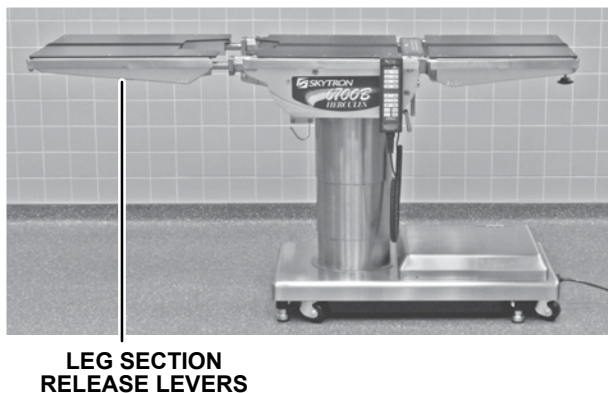

Figure 2. Leg Section Removal
4. Remove the leg section by pressing the two (2) release levers and pulling it out off the leg pins (Figure 2).